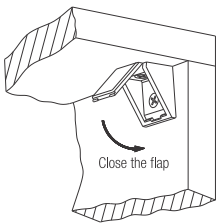

Fig 3
3. Close flap as shown in Fig. 3 to conceal screws.